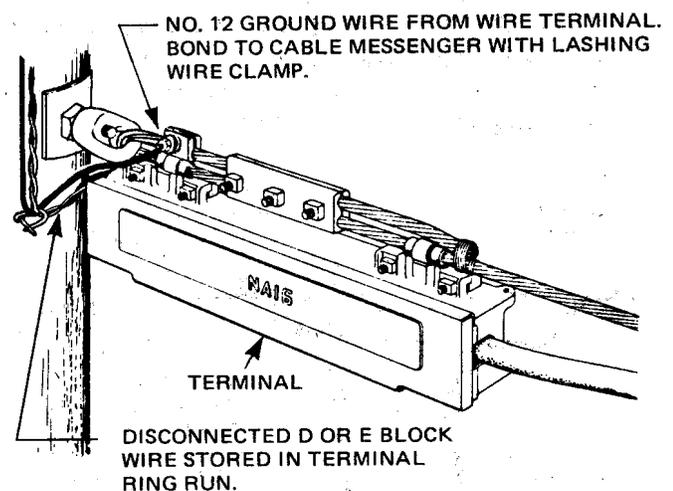
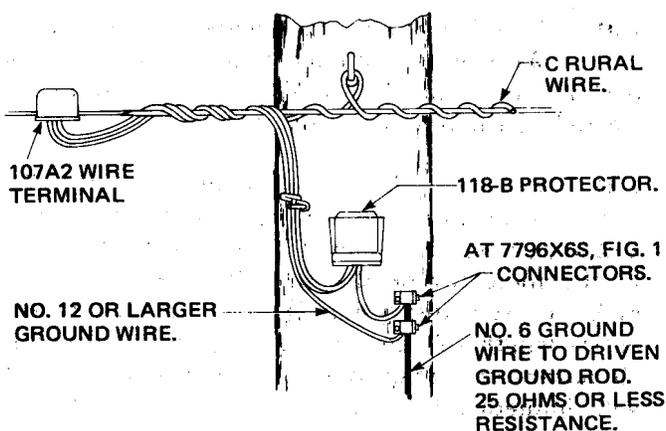

Figure 1 — Method of Grounding C Rural Wire at Terminal Pole
Figure 4 - Grounding Non-working C Rural Wire at 118-B Protector Pole
- (b) Strip the insulation from the cable end of the No. 12 Ground Wire, and connect it to the cable messenger with a cable lashing wire clamp. (See Figure 1.)
(a) Higher voltage joint use poles with 118-B Protectors - Disconnect the bridle wire from the open wire and place a tag showing the pole number of the ground location. The ground location should be the 118-B Protector location nearest the junction pole. Remove approximately 4 inches of insulation from a length of No. 12 or larger ground wire. Terminate the ground wire on both binding posts of the 107A2 Wire Terminal. Connect the other end to the vertical grounding conductor with an A.T. - 7796 x 6S, Fig. 1 Connector. (See Figure 4.)